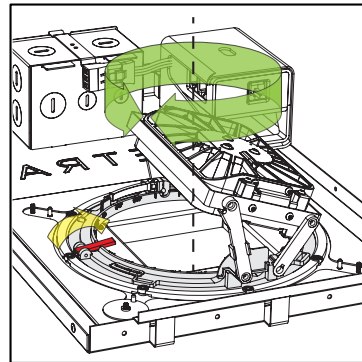

fig. 6
- d. Unlock the rotation lock by pulling it toward the fixture aperture. The rotation lock is the red, vertical lever across from the emitter chassis body. (see fig. 6)